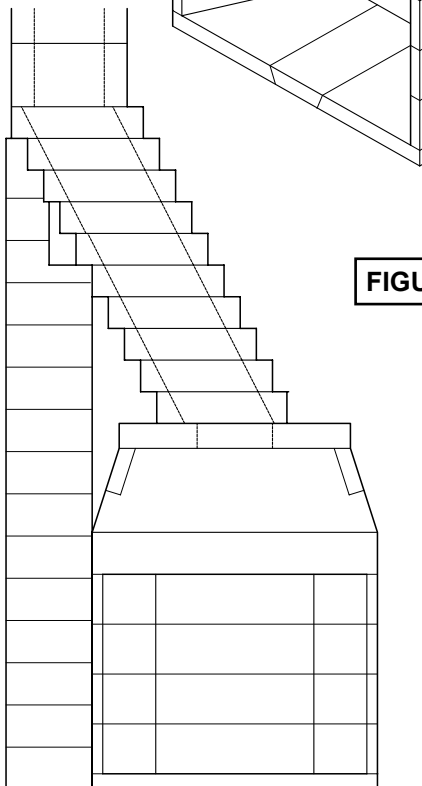

FIGURE 85
**NOTE:** For offset chimney block sequences that clear the side wall of the firebox below, it is allowable to support the first offset block that clears the the firebox side wall and then to proceed with supports at each third offset block thereafter. (Figure 85)